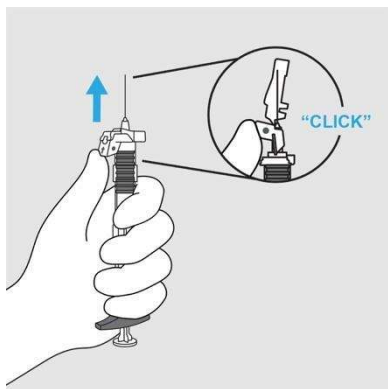

Figure 19: Activate safety device Storing
- c. When the injection is complete, withdraw the needle from the patient. Immediately activate the safety device by pressing upward from just below the arrow until a “CLICK” is heard or felt and the needle is fully covered. (Figure 19)